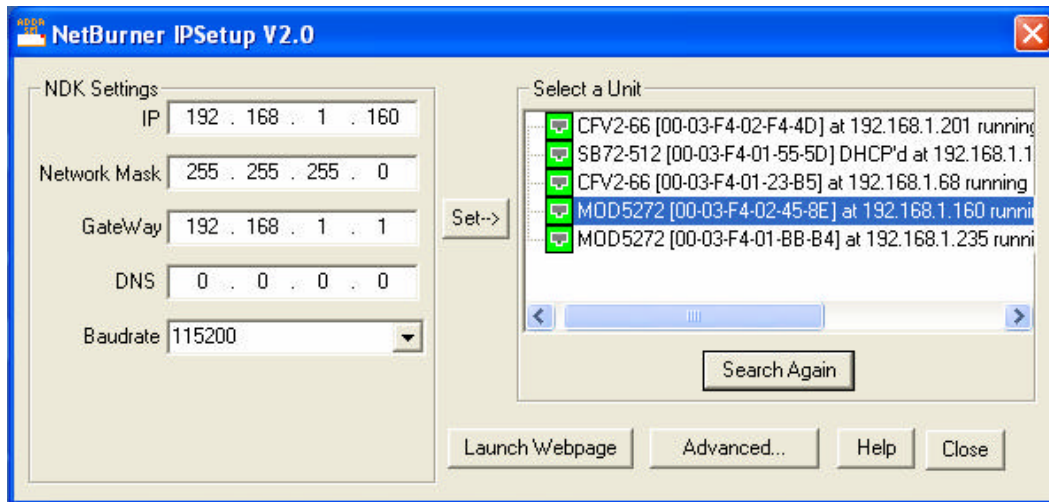

Figure 1 NetBurner IPSetup Screen
2. Double click on the IPSetup.exe icon and Figure 1 will be displayed.